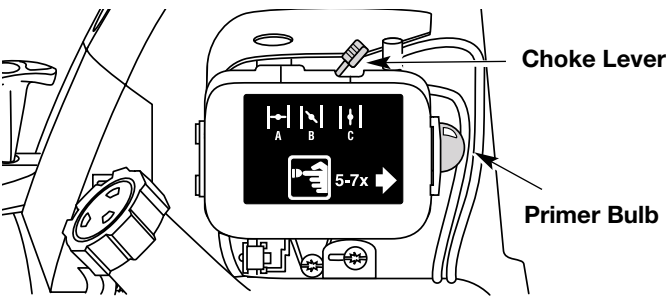

Fig. 22
4. Place the choke lever in the **FULL** choke (A) |←| position (Fig. 22).
NOTE: Slide the choke lever directly above the appropriate symbol on air filter cover decal (Fig. 22).
5. Fully press and release the primer bulb slowly 7 times. Gasoline should be felt and visible in the bulb (Fig. 22). If gasoline has not entered the bulb, press three more times, or until it does.
8. Move the choke lever to the **PARTIAL** (B) |↘| position (Fig. 22).
2. Move the choke lever to the **PARTIAL** (B) |↘| position (Fig. 22).
3. Fully press and release the primer bulb slowly 7 times. Gasoline should be felt and visible in the bulb (Fig. 22). If gasoline has not entered the bulb, press three more times, or until it does.